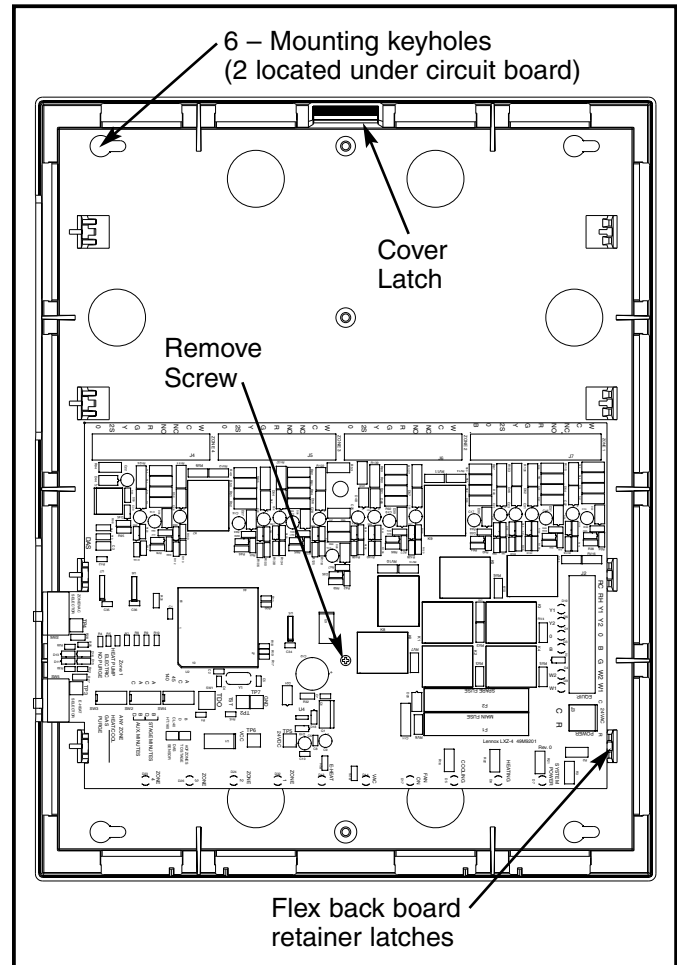

FIGURE 2 – ENCLOSURE BASE WITH CIRCUIT BOARD
1. Press in the cover latch on the top of the enclosure and pull open the cover (see **Figure 2**).
2. There are six (6) keyholes on the base of the enclosure. Use the four that are visible with the circuit board in place.